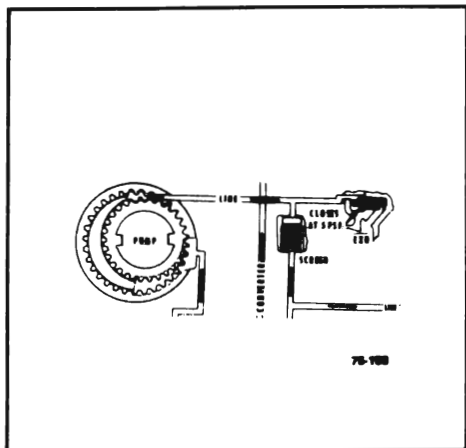

Figure 75-25 - Pump Priming Valve
m. Oil Pump Priming Valve (See Figure 75-25)